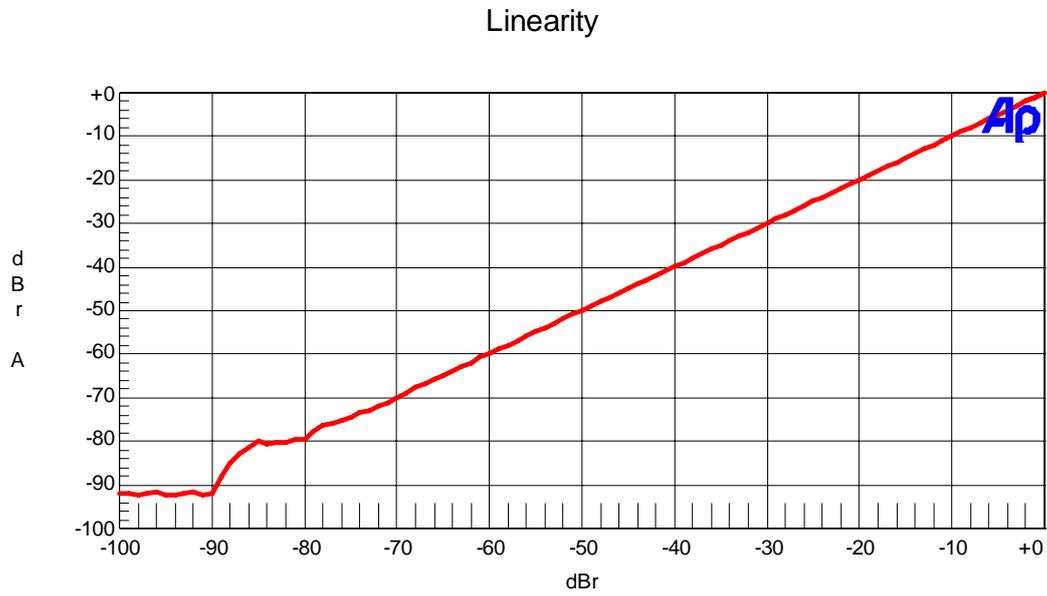

Figure. 18 Mono mode Linearity (fin=1kHz)
- Figure. 18 : Linearity (1kHz)